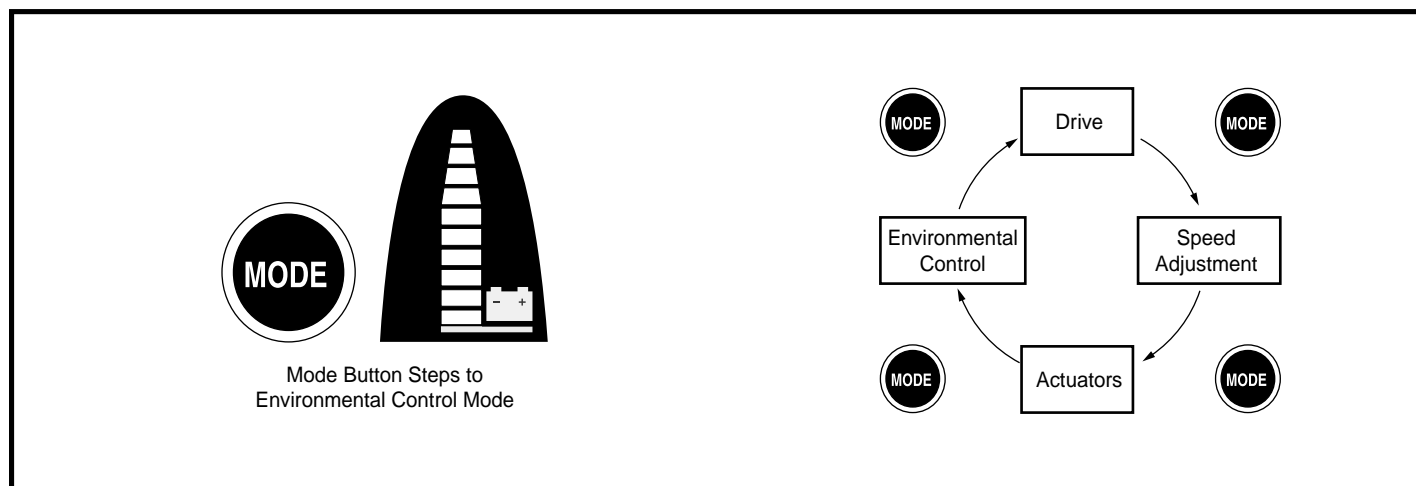

Figure 4. Mode Button Steps
1. Use the Mode button on the Remote Plus (see figure 4) to step between the following operating modes: